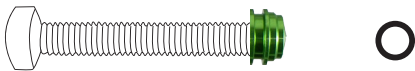

Fig 2
- Place the O-ring into the first groove of the end cap. (Fig. 2)